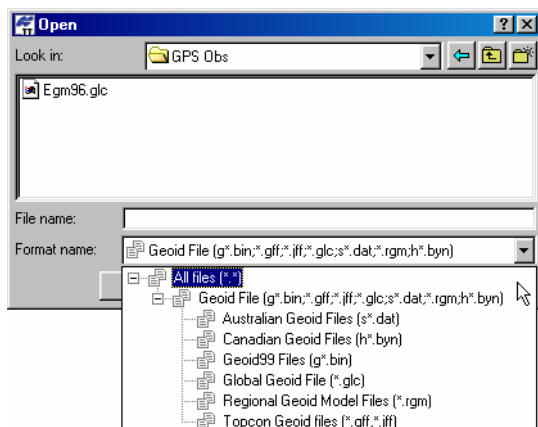

Figure A-1. Geoid File Format Selection
- On the **Open** dialog box, select the Global Geoid Files format and the EGM96.glc file (Figure A-1), then click **Open**.